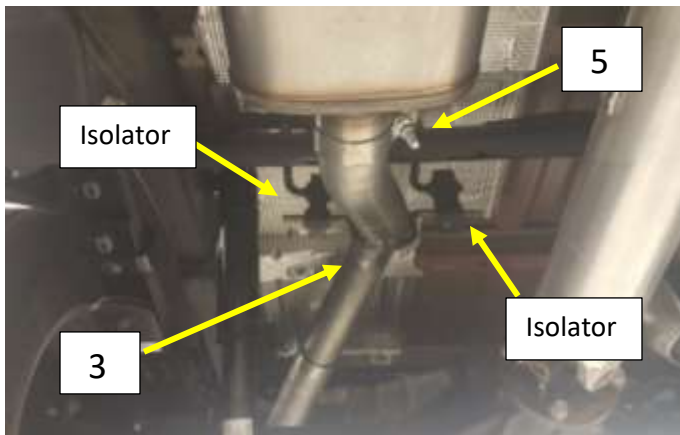

Figure 6
13. Install a supplied 3.0" band clamps (5) on to the muffler outlet with the bolt at the top and the nut facing the ground. Do not tighten. **Fig. 6**
14. Install the muffler outlet pipe (3) into the muffler outlet. Install the hanger rod into the isolators over the muffler and tighten the clamp to allow for adjustment. **Fig. 6**